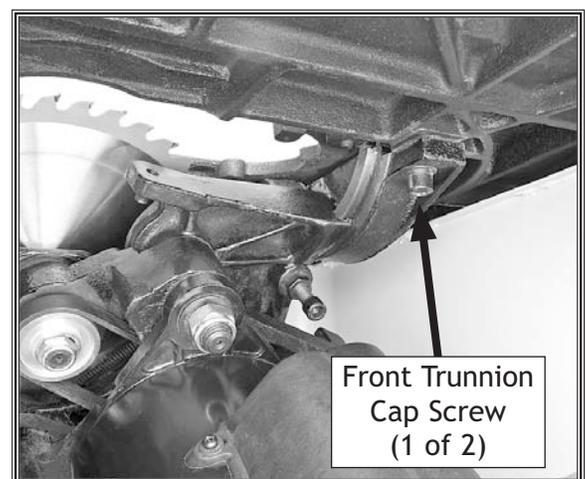

Figure 97. Location of the front trunnion cap screw (1 of 2).
9. Loosen the two cap screws that secure the front trunnion to the underside of the table (see **Figure 97**) and tap the trunnion in a similar manner as you did in **Step 7**.